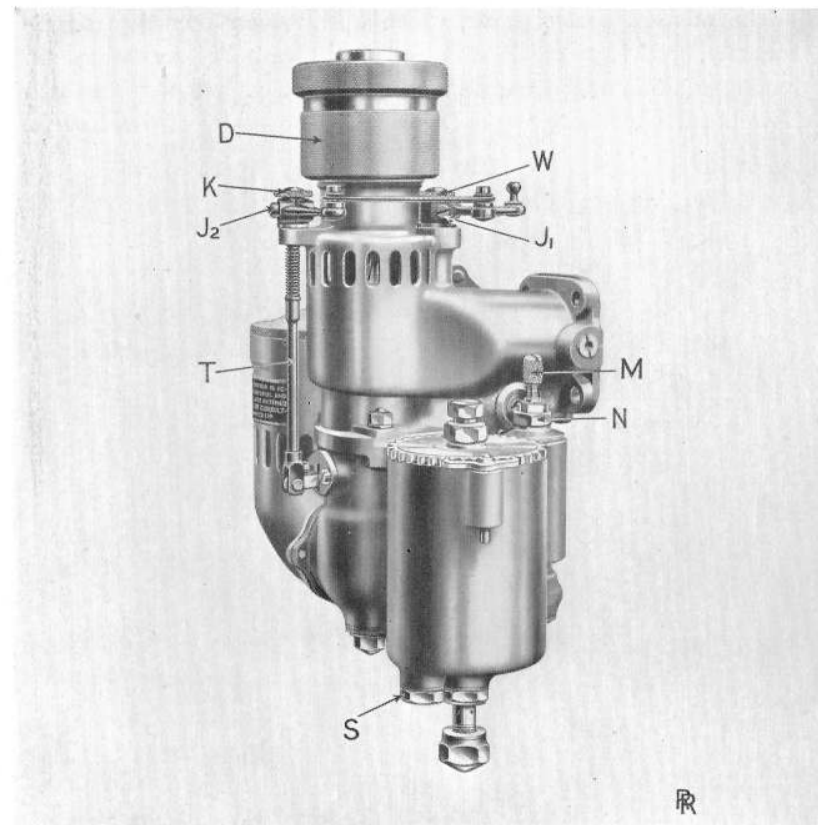
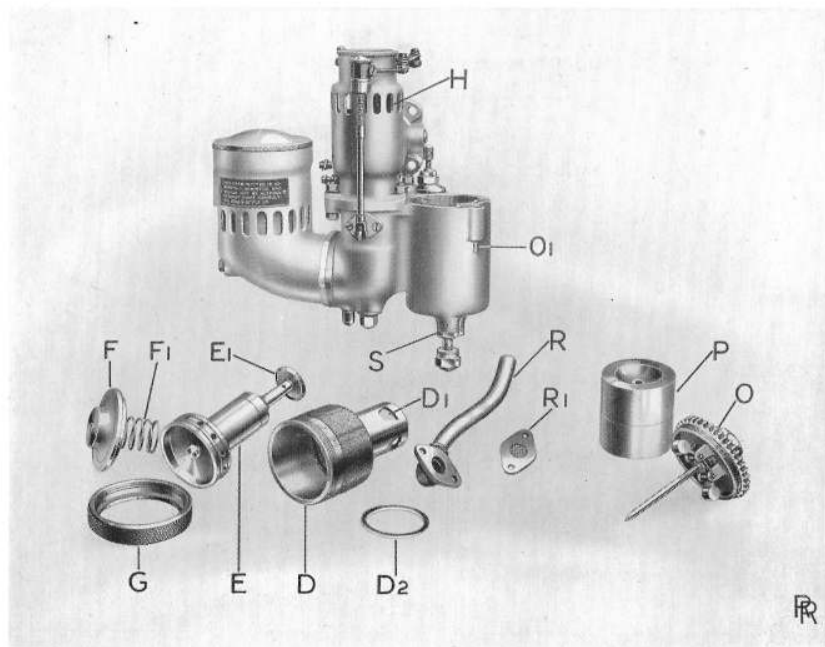

FIG. 23. CARBURETTER.
FIG. 24. CARBURETTER, WITH CERTAIN PARTS DISMANTLED.
A plug, **S**, Fig. 23, at the base of the float chamber should be removed and cleared of sediment.
The complete carburetter is shown in Fig. 23, and in Fig. 24 it is shown with certain parts removed.
The outlets of the jets are regulated by taper needle valves, that for the small or low-speed jet being shown at *W* (Fig. 23), and the control for the large or high-speed jet needle at *T*.
The automatic "expanding" effect is attained by the provision of a suction-operated piston working in a cylinder, *D* (Figs. 23 and 24), located above the high-speed jet.
The cylinder *D* and piston *E* are shown removed for cleaning in Fig. 24. The cap *F* carrying the spring *Fr* fits over the top of the cylinder, and is retained by the knurled nut *G*.
With the mixture control lever set half-way along its quadrant and the clamping screws **J1** and **J2** (Fig. 23) of the jet needle levers slack, each of the knurled nuts **K** and **W** should be turned until the line filed across them registers with the line across the end of the corresponding screwed spindle, the end of the spindle being at the same time flush with the end of the nut.
To remove this, the jet needle should be raised with the fingers by lifting knurled nut, **W** (Fig. 23), and the throttle simultaneously opened to race the engine momentarily.
This jet can be regulated by means of the knurled screw **M** (Fig. 23), which carries a taper needle running into the jet. Turning this screw in a clockwise direction reduces the jet opening, and in an anti-clockwise direction increases it.
**Float Feed Mechanism.** The float chamber should be cleaned out every 5,000 miles, as directed on page 37, by unscrewing the cover **O**, after raising the catch **O1**, and removing the float **P**, Fig. 24. The interior of the float chamber should be wiped out with a piece of clean, damp wash-leather.
This pipe is shown removed at **R** in Fig. 24.
The high-speed jet needle is removed by taking out the pin from the jaw at the lower end of control rod **T** (Fig. 23) and unscrewing the two countersunk set-screws which secure the bearing of the operating lever to the side of the carburetter. The jet needle may then be lifted out.